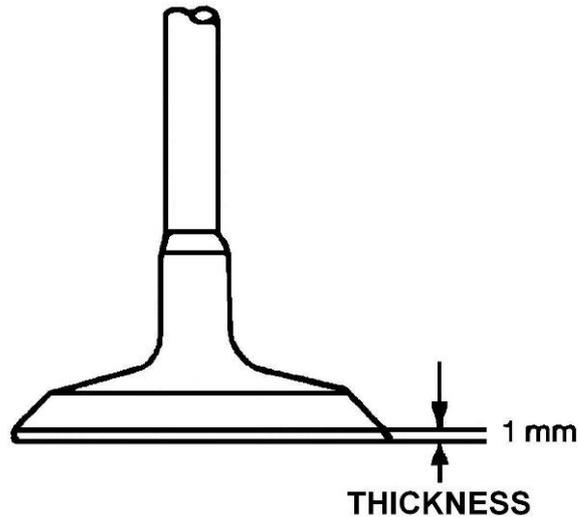
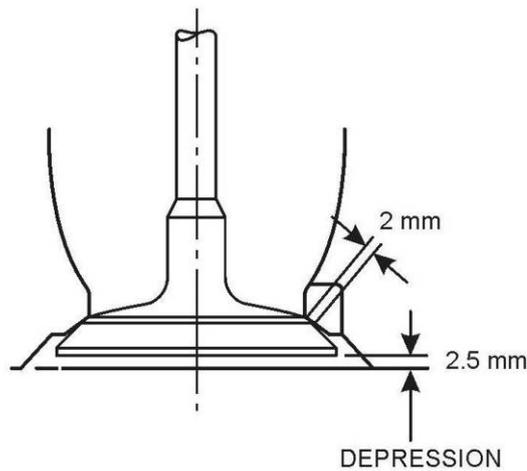

Figure 4 Measuring the Valve Head Thickness
Figure 5 Measuring the Valve Depression
- d. Check the valve contact width of the valve seat. If the contact width exceeds the 2.0 mm (0.079 in) limit, insert the valve which was originally positioned in the port, ensuring that the valve head thickness (Figure 4) is not less than 1.0 mm (0.039 in), and measure the amount of depression between the cylinder head surface and the head of the valve (Figure 5). The standard dimension is 1.0 to 2.5 mm (0.039 to 0.098 in). If the dimension is within these limits, carefully grind or cut the valve to obtain the correct contact width and recheck the amount of depression. If the depression exceeds 2.5 mm (0.098 in) or if cracks or surface imperfections are evident, replace the valve seat. Repeat this procedure for each valve seat.